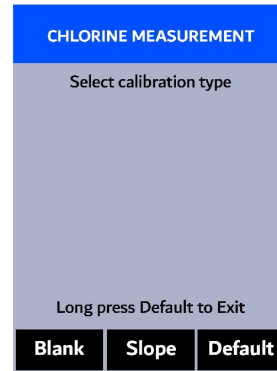
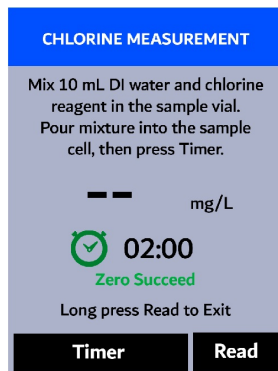

Figure 31.
Figure 32.
4. Press **OK** to launch the **CHLORINE CALIBRATION** screen (Figure 31).
6. Rinse the conductivity/chlorine sample cell three times with deionized (DI) water. Fill the sample cell with DI water.
7. Press **Zero** (**<** or **>**). The message **"Zero Succeed"** will appear on the bottom of the display (Figure 32).